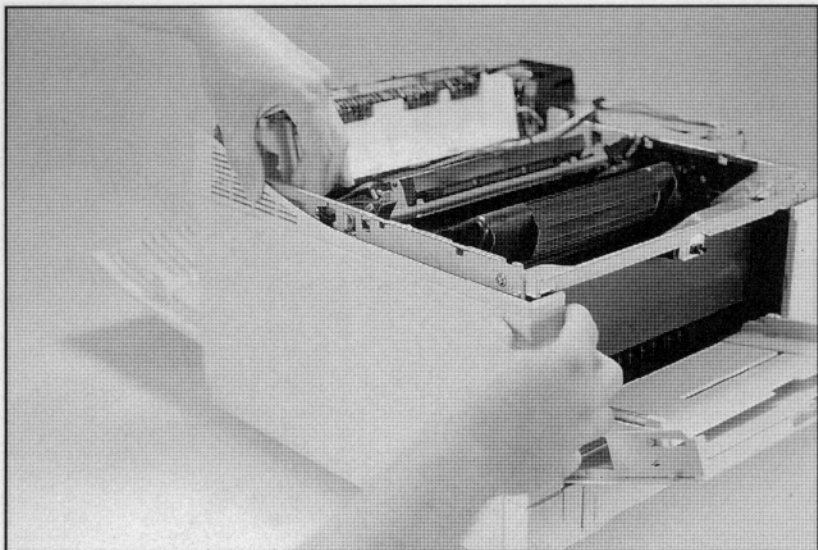

Figure 6-5 Left Side Cover Latches
- 2 Release the 2 latch points on the Left Side Cover (front latch first) see Figure 6-5. The latches are on the inside of the Left Side Cover.